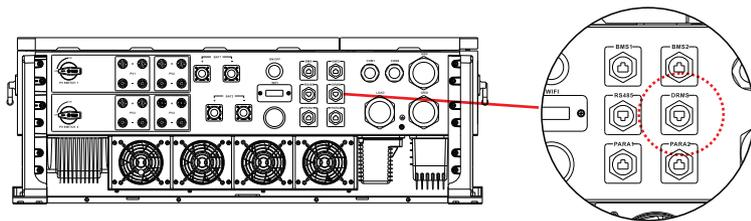

Figure 4.6-5 RJ45 interface
Step 4. Connect RJ45 terminal to the right position onto the inverter. See Figure 4.6-5.